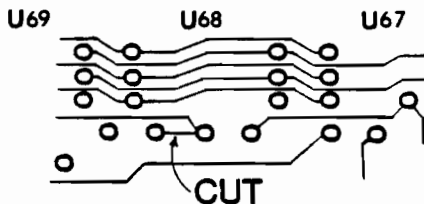

Figure 31
3. Below U68 are three feed through holes in a single line. A foil trace runs between the left feed through hole to the center hole. Cut this trace (see figure 31).